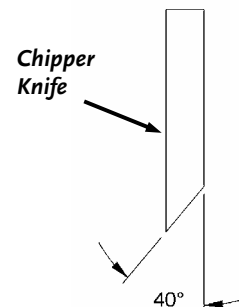

Figure 36
- It is extremely important to consistently maintain the 40-degree angle for proper performance (**Figure 36**).